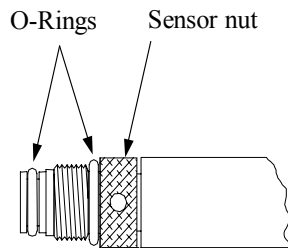

Figure 4-5 O-Ring Lubrication
4. Apply a thin coat of o-ring lubricant (supplied in the YSI 5511 maintenance kit) to the o-rings on the connector side of the sensor (see Figure 4-5 O-Ring Lubrication).